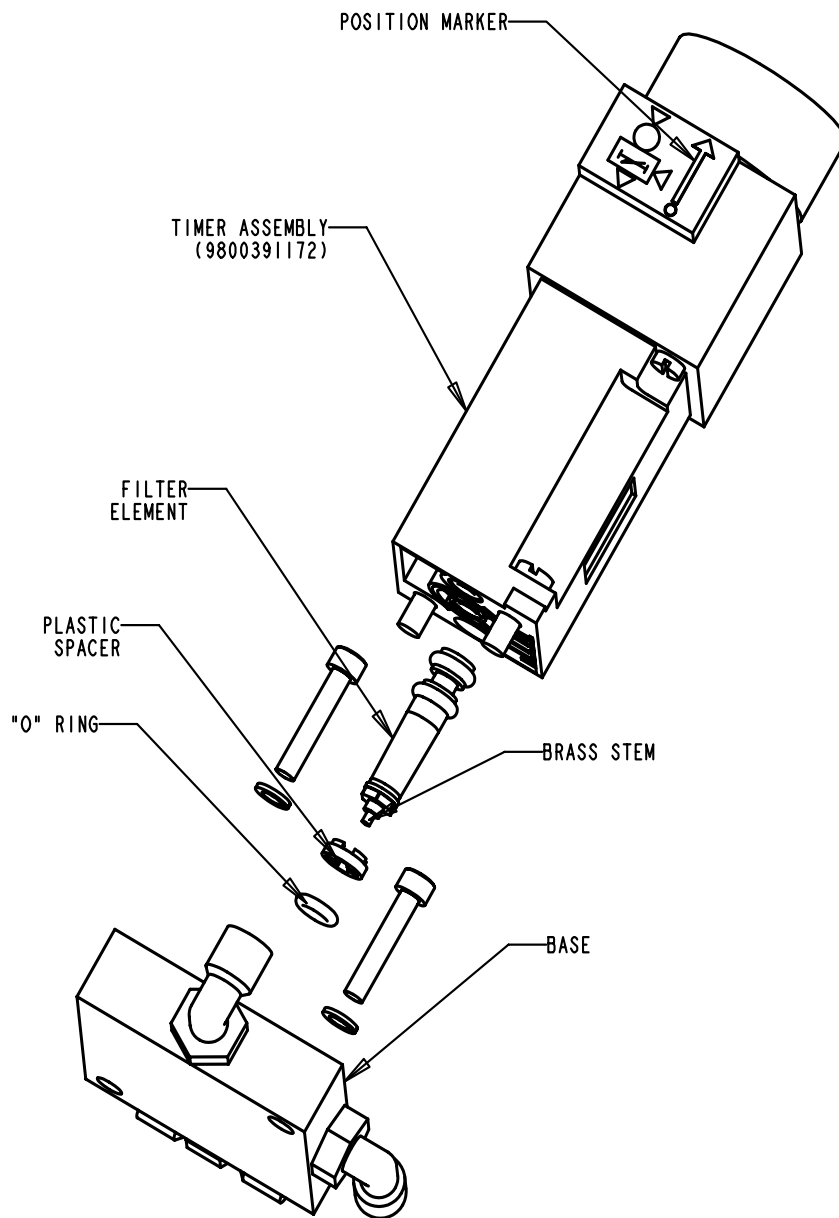

FIGURE 7.1
1. **TIMER FILTER** - Open rear cover and remove thumb screw that holds control box cover. Remove control box cover (Figure 3.0). Remove the timer assembly from the base (Figure 7.1) using a straight blade screwdriver. Remove the small o-ring, then the plastic spacer. Grasp the small brass stem on the filter element and pull straight out. Clean the filter element in solvent, blow dry, and reassemble.